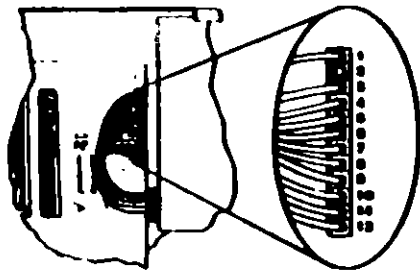

Figure 1. System Board Power Connector
- Check for a voltage of 2.4 to 5.2 Vdc between pins 1 and 5 (ground) at the system board power connector (Figure 1).